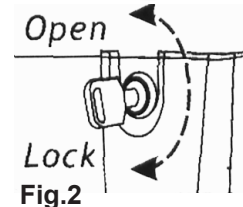

Fig.2
- 3.2 Before moving the tool chest ensure that the drawers are closed and locked (Fig.2) to prevent accidental opening.